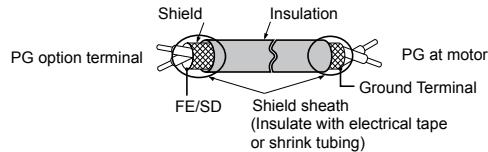
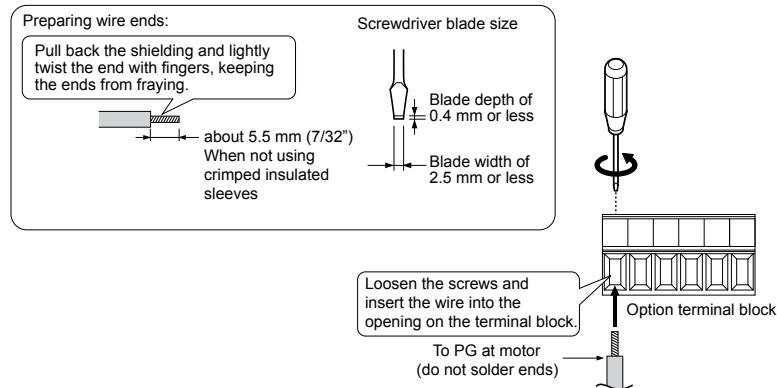

Figure 7.5 Preparing Ends of Shielded Cable
Figure 7.6 Preparing and Connecting Cable Wiring
3. Prepare and connect the wire ends as shown in **Figure 7.5** and **Figure 7.6**. Refer to **Wire Gauges and Tightening Torques of PG-B3 and PG-X3 Options** on page 175 to confirm that the proper tightening torque is applied to each terminal. Take particular precaution to ensure that each wire is properly connected and that wire insulation is not accidentally pinched into electrical terminals.